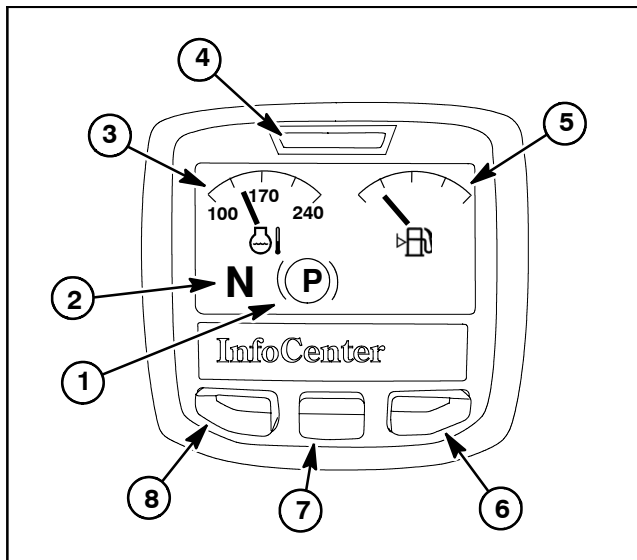

Figure 14
The two (2) InfoCenter main information screens (Figs. 14 and 15) are displayed after the initial splash screen has been displayed for several seconds. During normal machine operation, the main information screens provide machine information for the operator. Toggling between the main information screens is done by pressing the right button on the InfoCenter.